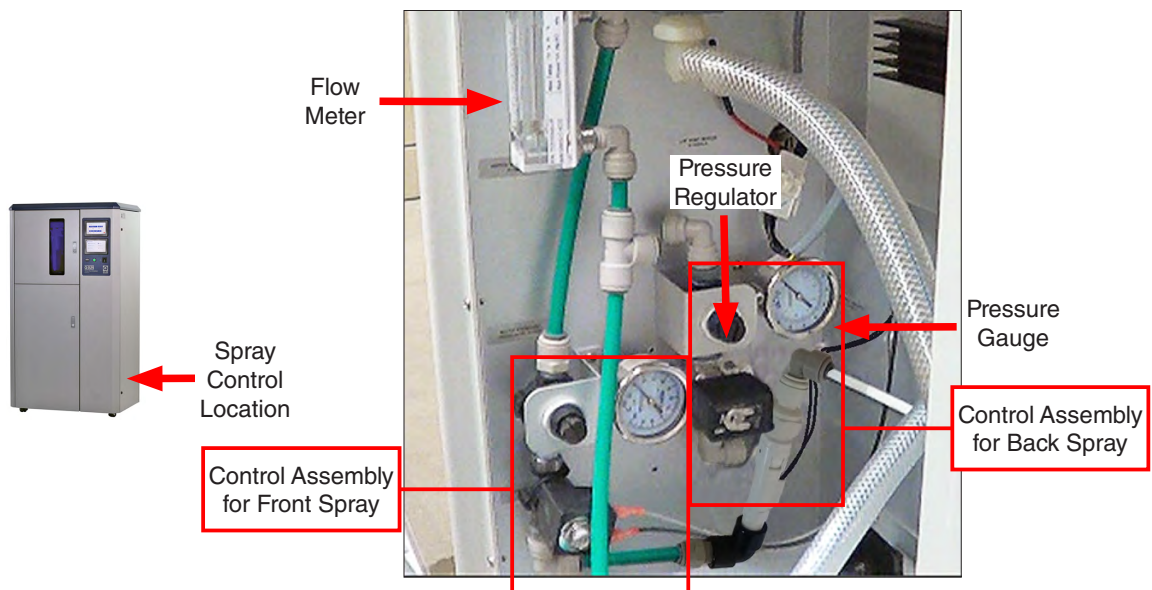

Figure 10.2b: Xe-2-HBSE back spray control assembly.
- The back spray has a separate assembly to control the flow of water (Figure 10.2b).